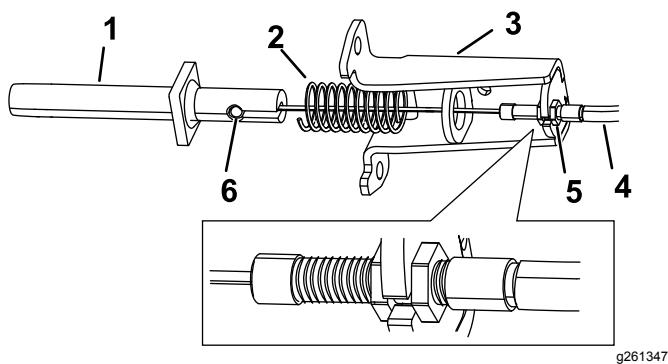

Figure 9
- Insert the brake cable through the brake mount and spring, and insert the barrel fitting into the slot of the brake-shaft pin (Figure 9).
- Insert the brake-shaft pin into the spring and then into the brake mount (Figure 9). Push in the pin to compress the spring, insert the
- Adjust the nuts on the brake cable so that only 2 threads show toward the cable (Figure 9).